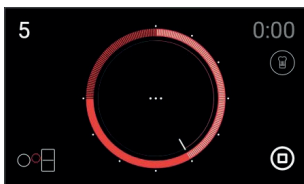
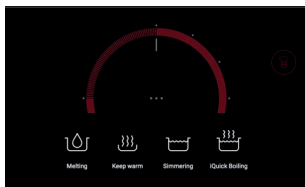

fig. 5
fig. 8
selection" screen (fig. 5).
- 2 By sliding your finger on the power ring or by touching any of its points, you can choose a power level between "0" and "9", or the "Power" function (last quadrant of the power ring). Once the power level is chosen, it will be displayed on the top left corner of the screen (fig. 5).
When in the "power selection" screen (fig. 5), to turn off a zone, slide your finger on the power ring until reaching level "0", or press the icon for turning the zone off.
- 2 Press the icon 0:00 (fig. 5), and then slide your finger on the time ring to change the timer setting.
- 2 Press the icon 0:00 (fig. 5), and then slide your finger on the time ring to reduce the time down to 00:00. The timer will be cancelled.
- 1 Touch the 0:00 icon (fig. 5). The
On the “power selection” screen (fig. 5), there is the iCooking icon , which has special functions (fig. 8) that help the user when cooking.
To activate it, choose a zone and press the “iCooking” icon . When you do so, it will light up in red. Press the “Keep Warm” icon  (fig. 8), and it will also light up in red. Once this function is activated, the  symbol will be displayed in the centre of the zone chosen.
To activate it, choose a zone and press the iCooking icon . When you do so, it will light up in red. Press the “iQuickBoiling” function icon  (fig. 8), and it will also light up in red. Once this function is activated the  symbol will be displayed in the centre of the zone chosen.
To activate it, choose a zone and press the iCooking icon . When you do so, it will light up in red. Press the "Melting" icon  (fig. 8), and it will also light up in red. Once this function is activated, the  symbol will be displayed in the centre of the zone chosen.
To activate it, choose a zone and press the iCooking icon . When you do so, it will light up in red. Press the "Simmering" icon  (fig. 8), and it will also light up in red. Once this